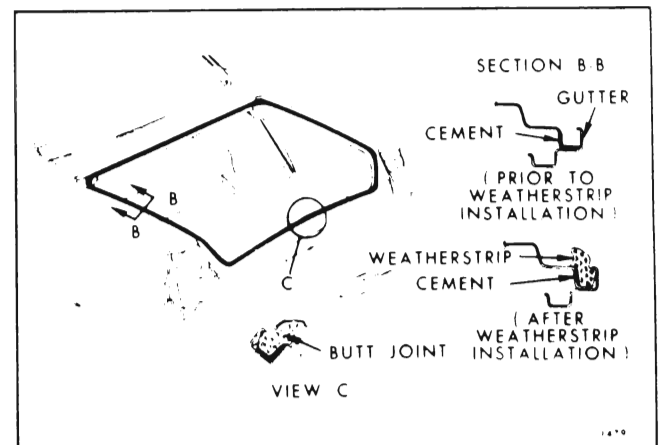

Fig. 8-23 — Rear Compartment Weatherstrip Assembly
1. Separate “butt” ends of weatherstrip at rear compartment opening (Fig. 8-23).